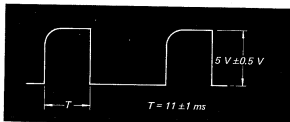

Fig. 7-1. Countdown multivibrator setting
2. Adjust R125 so that pulse width is  $11 \pm 1$  msec. See Fig. 7-1.